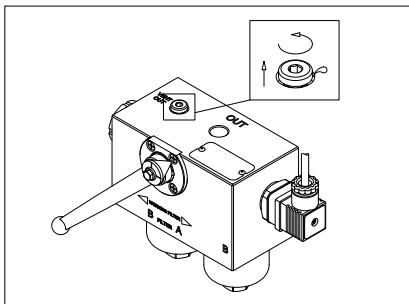

fig. 12
- (Fig. 12) Loosen the “Vent OUT” breather plug by a maximum of one turn
- For the mounting/dismounting of the indicator, please refer to the paragraph “Clogging indicator replacement” above (Fig. 12÷16)